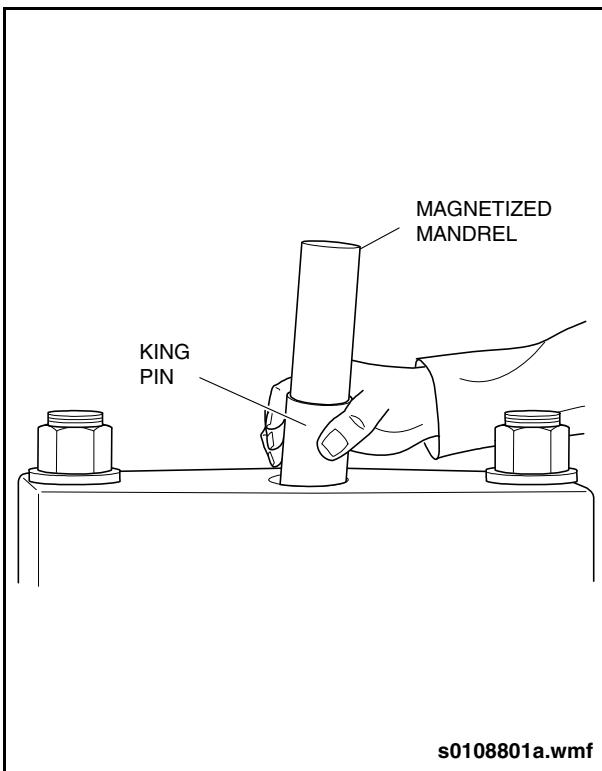

Fig. 1-25: King Pin Removal Tool
19. Lift king pin out though bore in press cross-beam using magnetized centering mandrel. (Item 53 from special tools list). See "Fig. 1-25: King Pin Removal Tool" on page 26.